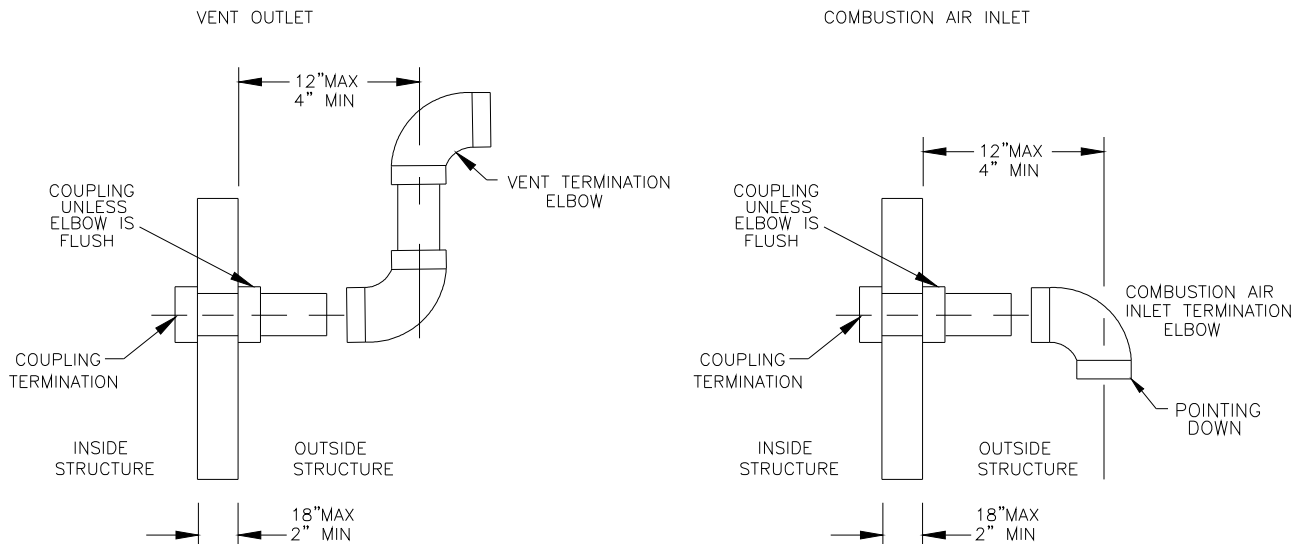

Figure 1: Proper Direct Vent Terminations
1. Vent and combustion air pipes may pass through a maximum wall thickness of 18 inches. The minimum wall thickness is 2 inches. Referring to Figure 1, the maximum distance from the outer wall to the center of the elbow is 12 inches.
2. The exhaust vent termination elbow shall be installed in accordance with these instructions and any applicable local codes. Refer to Figures 1 and 2 for typical examples of proper terminations.